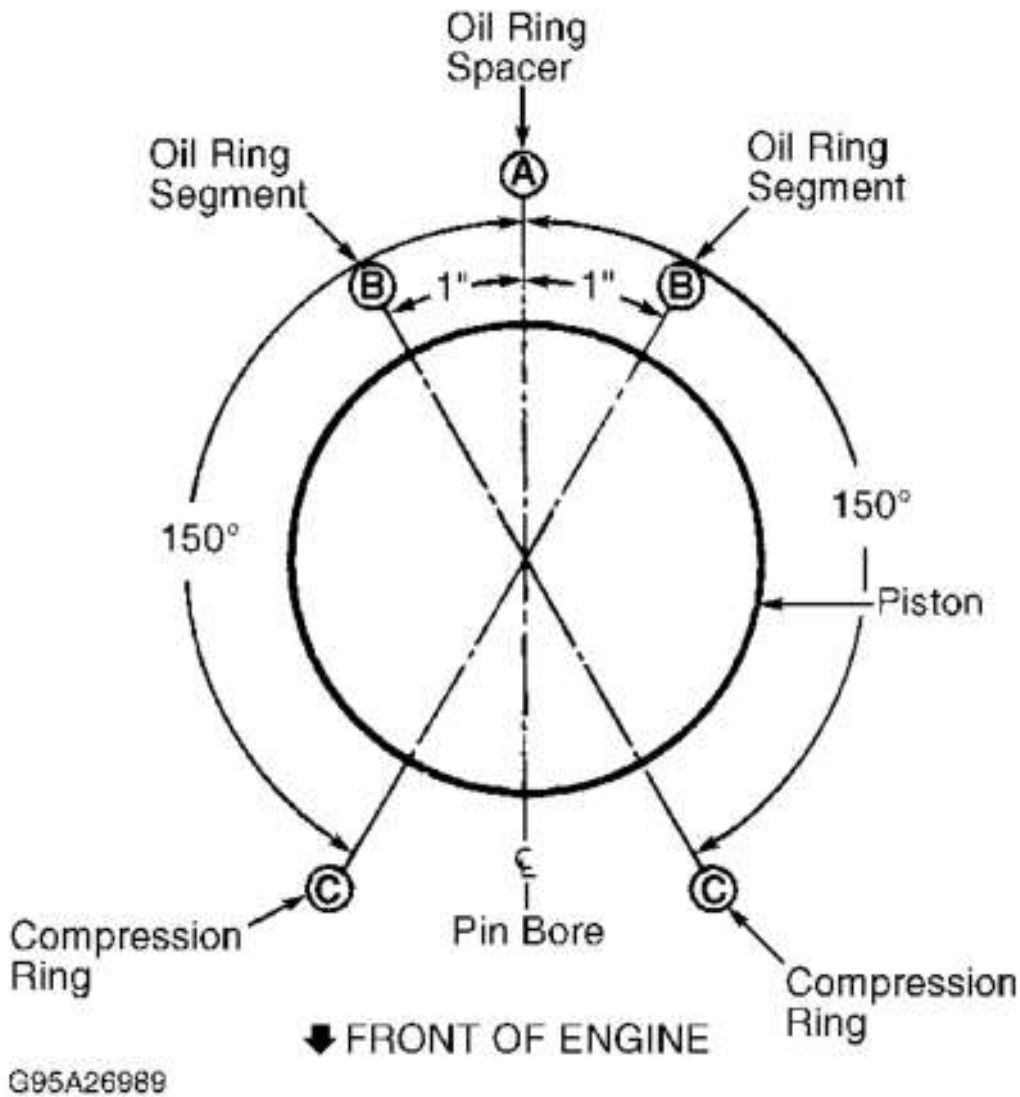

Fig. 8: Positioning Piston Ring End Gaps
2. Check side clearance of rings after installing on piston. Ensure clearance is within specification around entire circumference. Replace piston and/or rings if clearance is not within specification. See **PISTONS PINS & RINGS** table. Ensure rings are properly spaced on piston before installing pistons into cylinder. See **Fig. 8**.